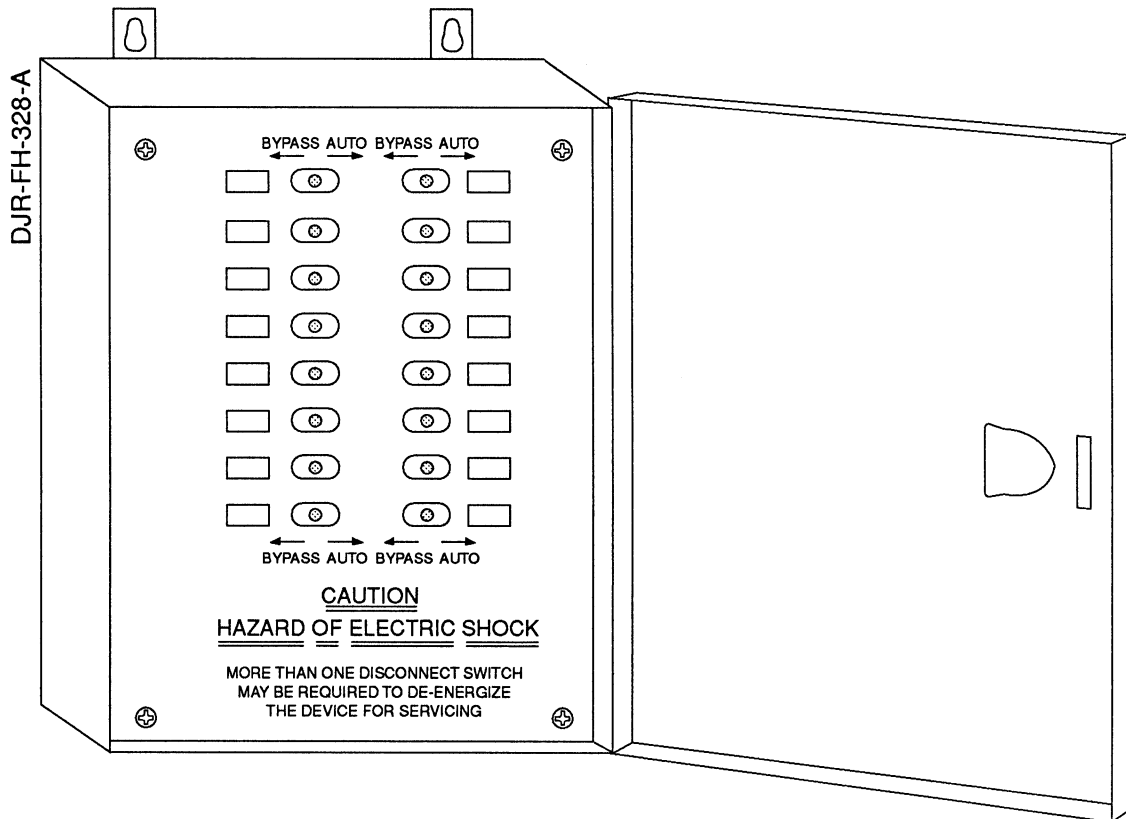

FIGURE 2-1. DATA DISTRIBUTION CABINET
2. Locate the switches labelled Bypass/Auto in the data distribution cabinet. Set the switches to **Auto** for all fueling points connected to the cabinet. Refer to Figure 2-1.